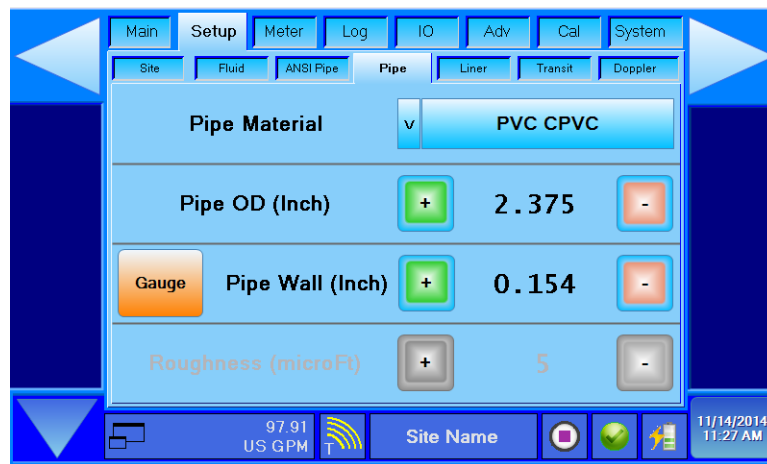

Figure 56: Setup > Pipe
2. In the Setup > Pipe screen, make sure that the Pipe Material and Pipe OD have been entered as in Figure 56.
2. From the Setup > Pipe screen, press **Gauge** to enter the pipe gauge wizard (see Figure 56). The Ultrasonic Thickness Gauge wizard appears in Automatic Analysis Mode.